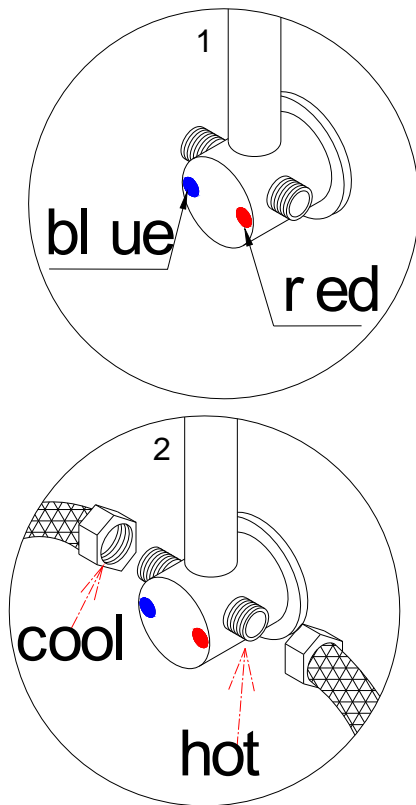

Fig 15
14. Connect hot water to the red mark water inlet and cold water to the blue mark water inlet. Connect the drain flexible pipe (1 1/2" outlet) to the drain opening in the floor. See Fig 15 for details.